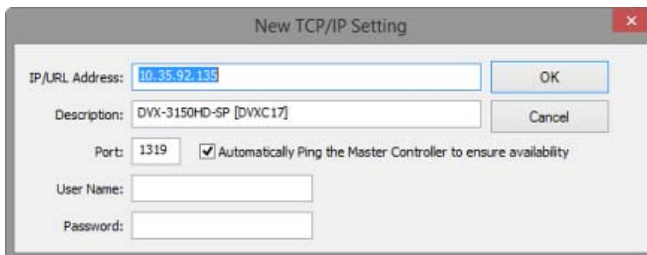

FIG. 137 New TCP/IP Setting dialog
- If the selected IP address is new, the *New TCP/IP Setting* dialog is presented, indicating the selected IP address. Fill in the **Description**, **User Name** and **Password** fields as necessary (FIG. 137).